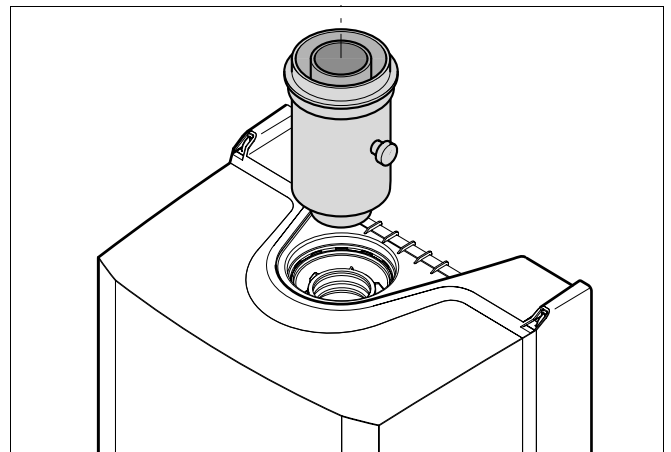

fig. 18 Vertical flue adaptor
- Fit the vertical flue adaptor (fig. 18) onto the appliance flue connector.